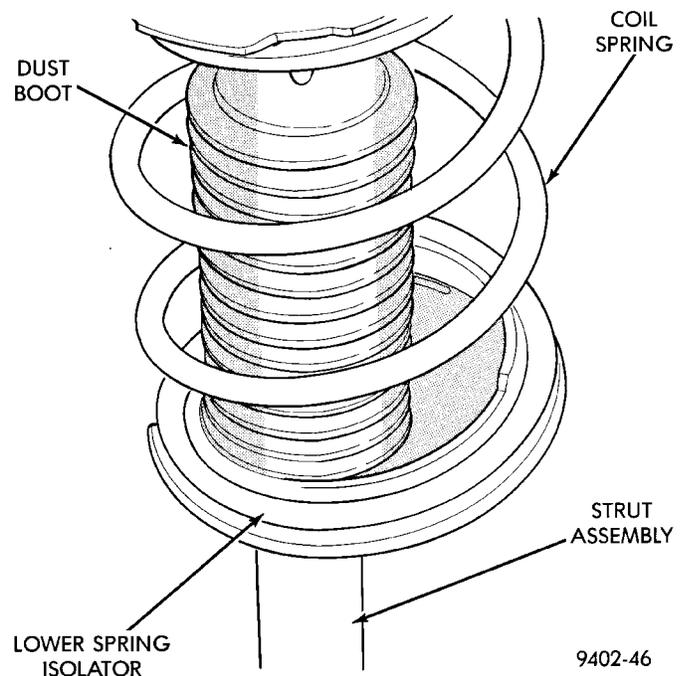

Fig. 2 On Vehicle Strut Assembly Inspection
- (1) Inspect for damaged or broken coil springs (Fig. 2).
- (2) Inspect for torn or damaged strut assembly dust boots (Fig. 2).
- (3) Inspect for damaged lower spring isolator (Fig. 2).